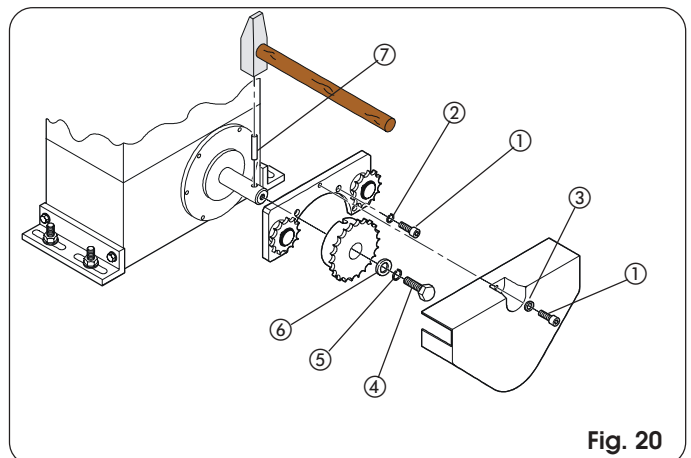
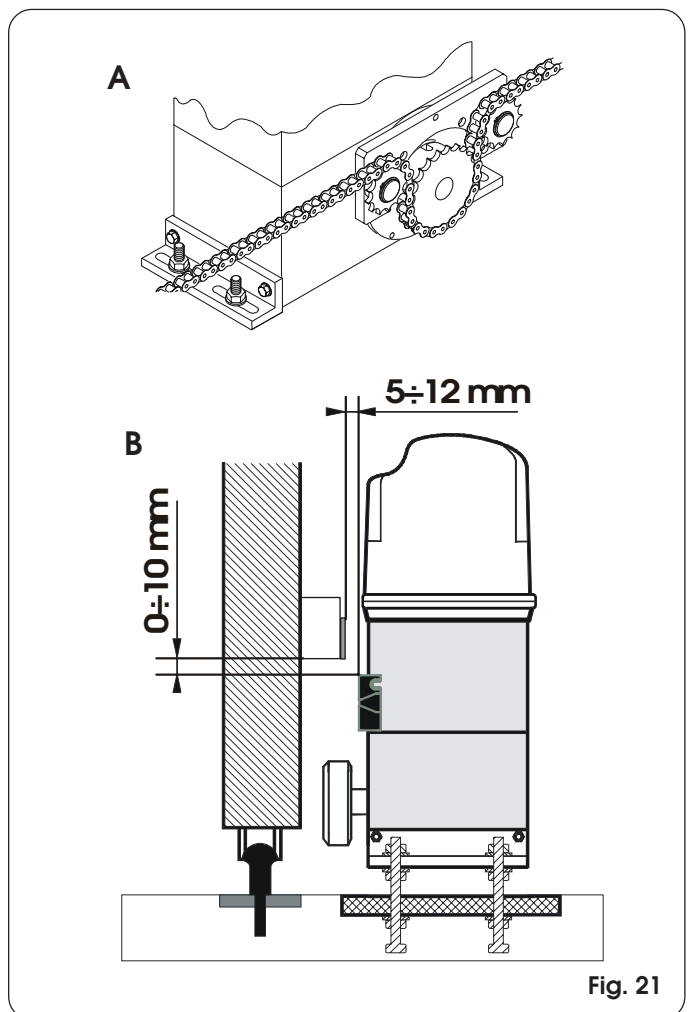

Fig. 20
Fig. 21
**4.5.2. MOD. 844 ER RF (Figs. 20 - 21)**
- 1) Insert the spring pin ⑦ on the shaft, using a hammer.
- 2) Fit the idle transmissions bracket on the gearmotor flange, using the four screws ① (M5 x 12) and the appropriate washers ②, in the kit as shown in Fig. 20.
- 3) Fit the chain pinion on the shaft, making the pinion seats coincide with the spring pin and tighten the screw ④ and the appropriate washers ⑤ and ⑥.
- 4) Pass the chain as shown in Fig. 21 ref. A and install the housing with screw ① and washer ③ as in Fig. 20.
- 5) In case of operators with MLS limit switches, arrange the supports for the positioning of the magnets supplied while observing the dimensions given in fig. 21 ref. B.